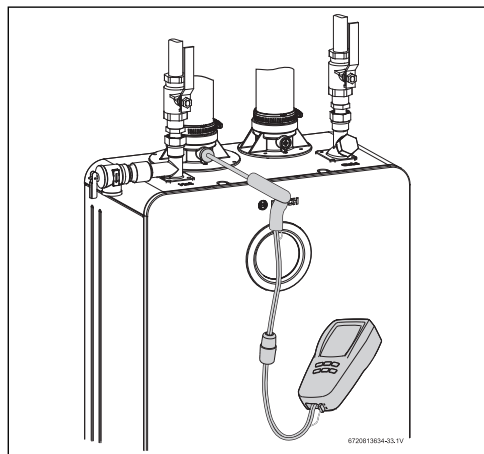

Fig. 67 Measuring port
- ▶ Remove the screw from the flue adaptor on the left side of the appliance, as seen in fig. 67.